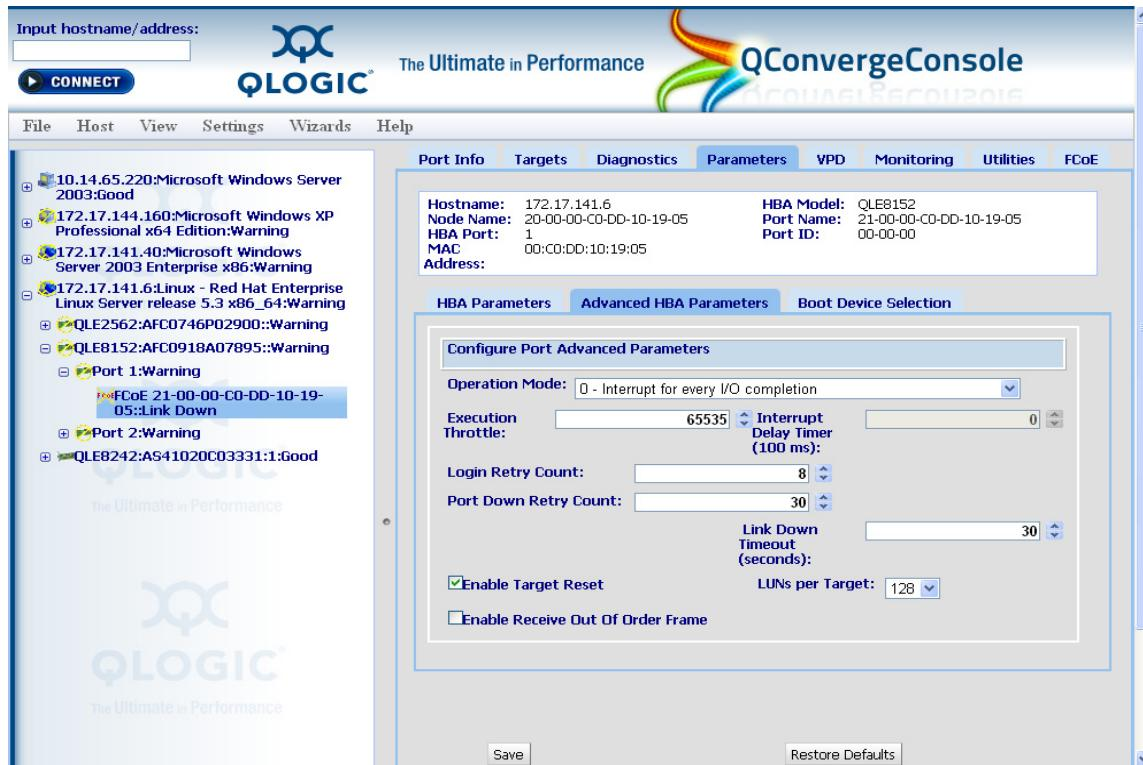

Figure 8-3. QConvergeConsole Advanced HBA Parameters
4. Click the **Advanced HBA Parameters** subtab, as shown in Figure 8-3.